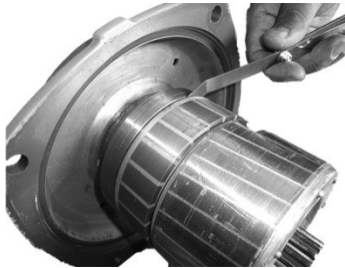

Figure 8.5.7
4. Use a feeler gauge to measure the brake gap (see Figure 8.5.7).
8. Inspect all parts. Braking surfaces should be clean, free of grease/oil and should not be glazed. Measure brake gap (see Figure 8.5.7) and brake lining (see Figure 8.6.3) and compare the measurement with the values listed in Table 8.7.1. Replace the brake pad assembly if the measurement is smaller than the replace limit.